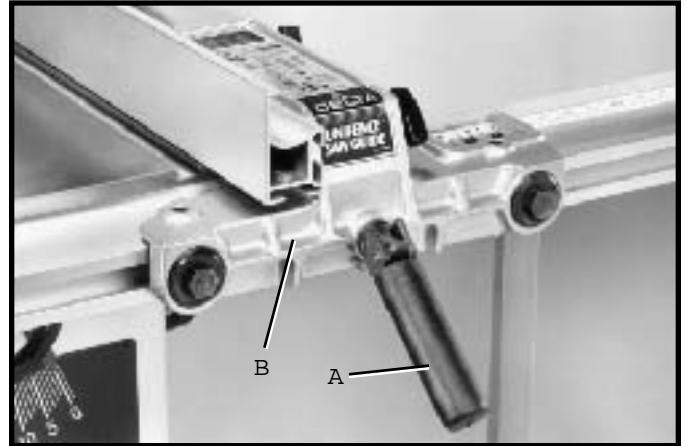
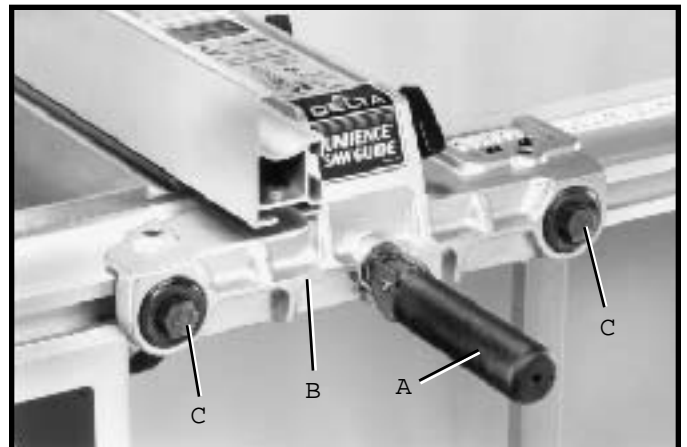

Fig. 99
Fig. 100
When the fence locking handle (A) is pushed to the down position, as shown in Fig. 99, the fence body (B) should be completely clamped to the guide rail. If the fence body (B) is not completely clamped to the guide rail when the handle (A) is in the position shown in Fig. 99, lift up on locking handle (A) Fig. 100, and slightly tighten two adjustment plugs (C) using arbor wrench or 7/8" wrench. Adjustment plugs (C) should be tightened an equal amount. Check to see if the fence body (B) is completely fastened to the rail by pushing down on locking lever (A). Adjust further if necessary. IMPORTANT: AFTER ADJUSTING THE CLAMPING ACTION OF THE FENCE LOCKING HANDLE, CHECK TO SEE IF THE FENCE IS PARALLEL TO THE MITER GAGE SLOT AND ADJUST IF NECESSARY.